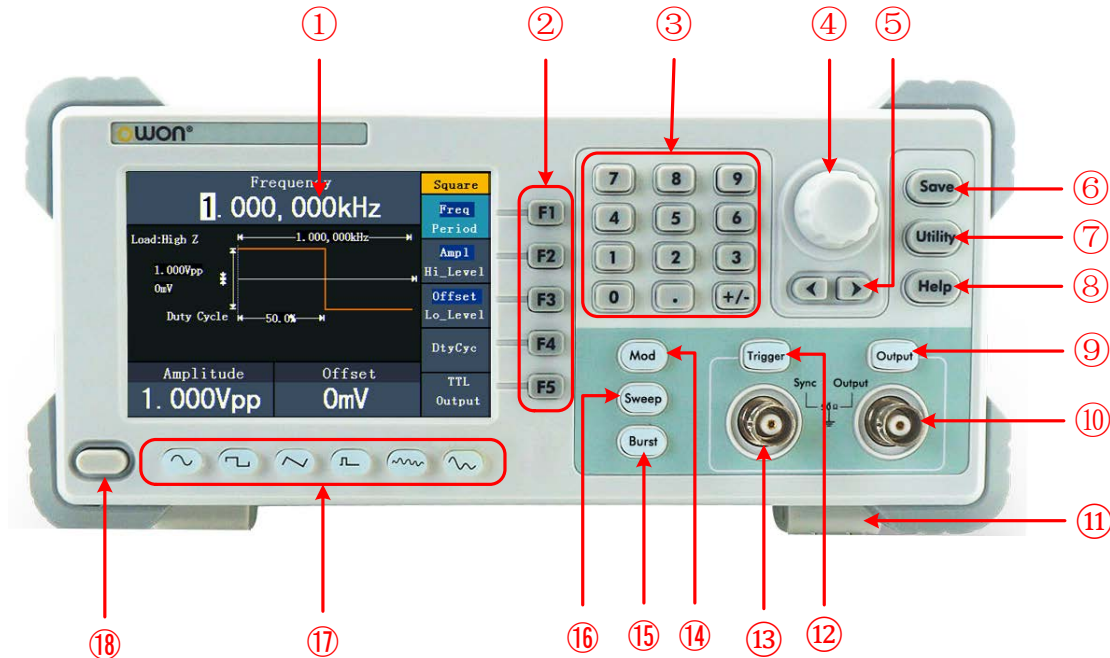

Figure 3-1 Front panel overview (the model with "F" is shown)
Unfold the foot stools on the bottom of the generator, as ⑪ in *Figure 3-1*.